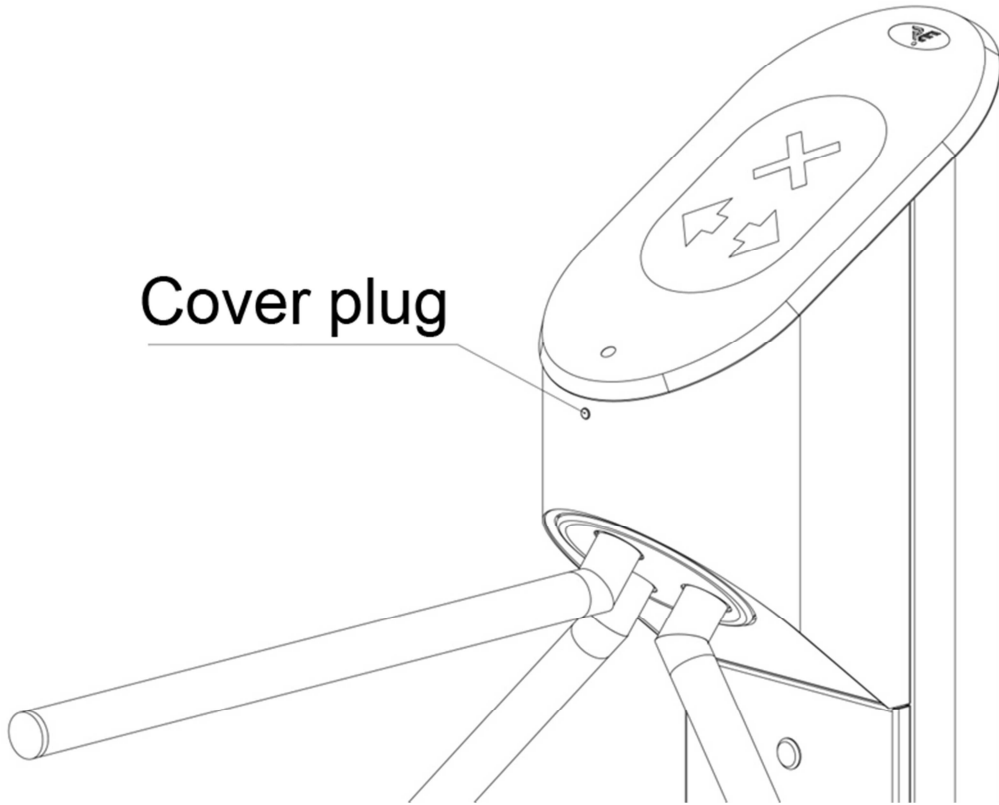

Fig. 2 Central stand of turnstile
- remove the plastic cover plug from the hole (Fig. 2);